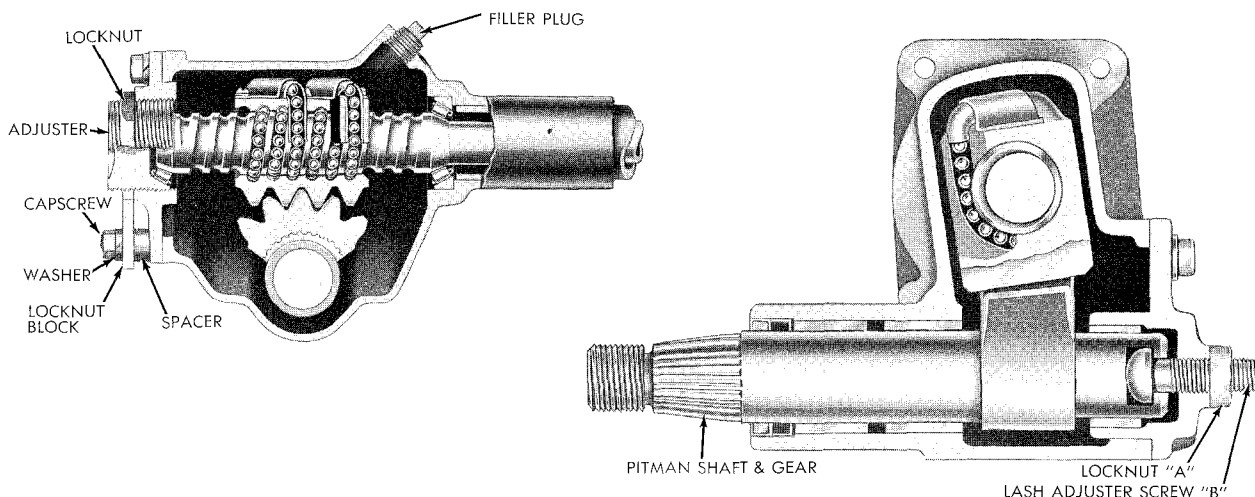

Figure 65. Steering Gear
- d. Remove locknut block (Fig. 65) by removing capscrew, washer, and spacer from housing end cover.
- h. Install locknut block (Fig. 65) and secure it with spacer, washer, and capscrew, being sure that it does not turn from its adjusted position.
- c. Turn lash adjuster "B" (Fig. 65) clockwise until backlash disappears between teeth on ball nut and teeth on "Pitman" shaft and gear. When adjustment is correct, the pull required to turn the wheel through "center" position, line of pull at 90°, should be approximately 2-1/2 lbs.
- d. Carefully secure locknut "A" (Fig. 65) being sure that lash adjuster "B" does not move.
IMPORTANT: Coat the worm bearing adjuster (Fig. 65) with Marfax No. 3 grease if the steering gear is overhauled or disassembled. This will prevent the steering gear lubricant from leaking by the bearing adjuster when it is assembled.